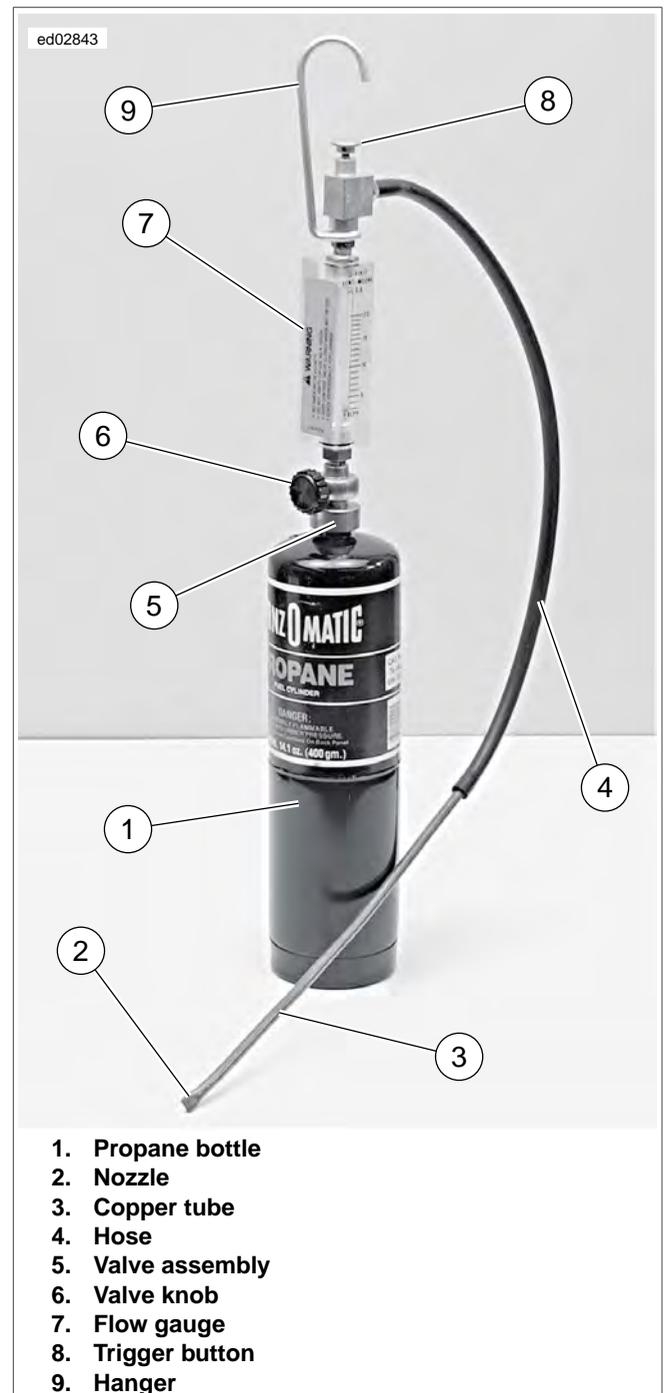

Figure 4-12. Leak Tester
1. See Figure 4-12. Make sure valve knob (6) is closed (fully clockwise).
2. Screw valve assembly (5) onto propane bottle (1).
1. See Figure 4-12. Press and hold trigger button (8).
2. Slowly open valve knob (6) until pellet in flow gauge (7) rises to between 5 and 10 SCFH on gauge.